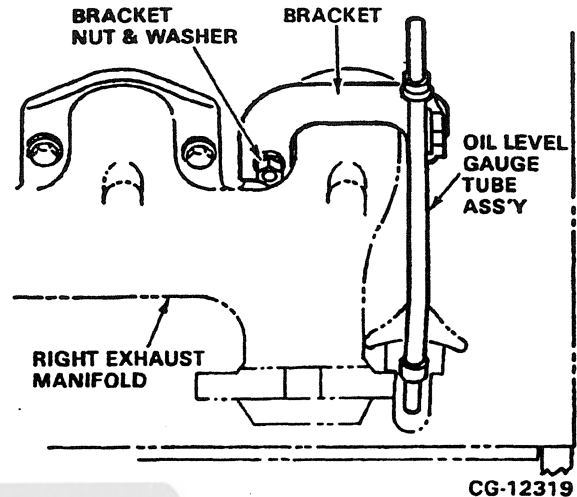

Figure 2.5. Loosen Oil Level Gauge Bracket
a. Loosen the nut and washer from the stud bolt, to free the oil level gauge tube bracket. Refer to Figure 2.5.